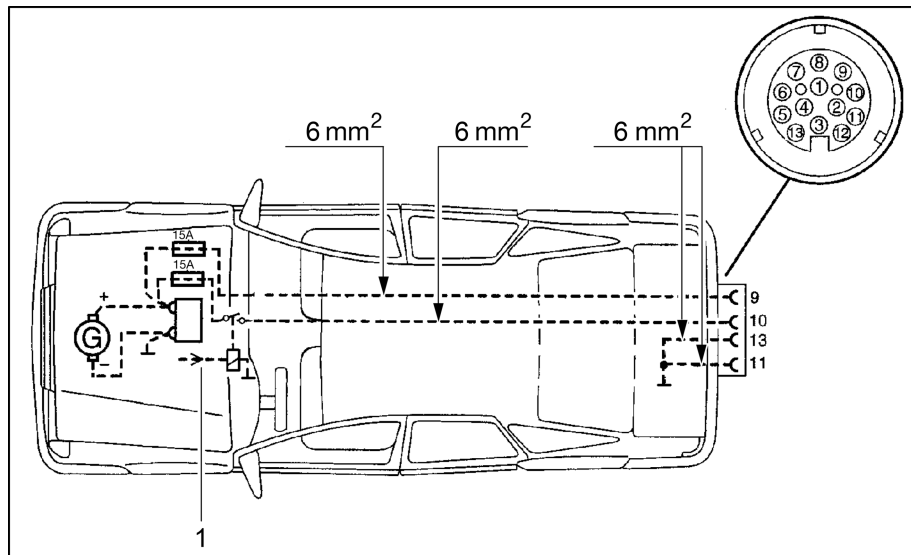

Fig. 105 Towing vehicle installation diagram
- ▷ The towing vehicle must be retrofitted with the corresponding cable cross sections and a relay for the power supply (controlled using the ignition) (see Bild 105).